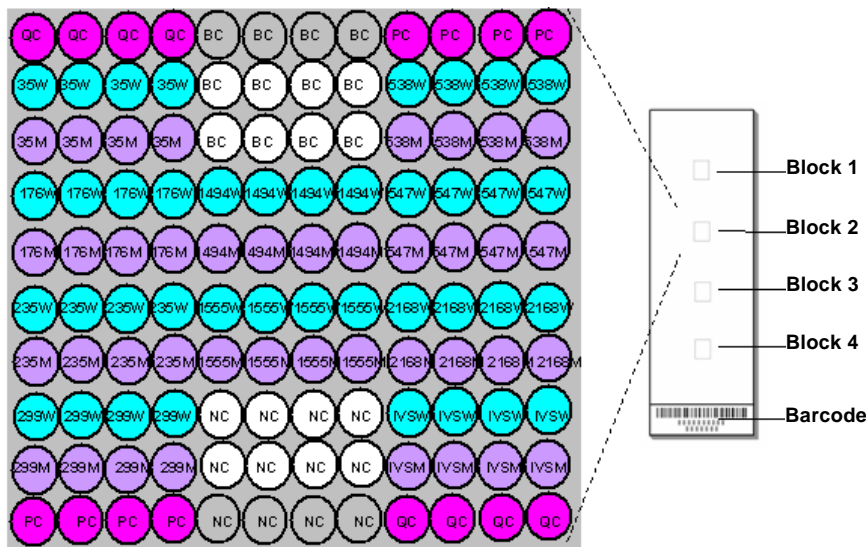

Figure 1. Array Layout. Each block contains 20 probes and 4 controls.
- 3.1 Six chips, packed in a plastic box. Each chip contains 4 identical blocks. Block layout is shown in **Figure 1** and detailed probe information in **Table 2**.